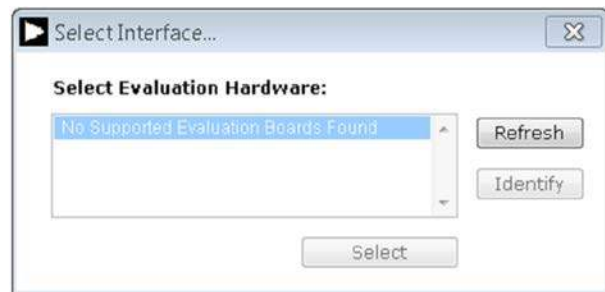

Figure 14. Evaluation Board Selection, No Board Connected
2. If the EVAL-AD4114SDZ is not connected to the USB port via the **SDP** when the software is launched, the software displays the dialog box shown in Figure 14. Connect the EVAL-AD4114SDZ to the USB port of the PC, wait a few seconds, then click **Refresh**, the dialog box shown in Figure 13 then appears.